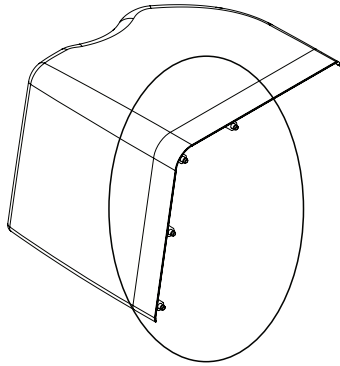

Figure 10. Cover fastener clip.
1. Insert the two pins on the top of the cover into the two holes on top of the frame; the cover should be slightly angled. See Figure 10.